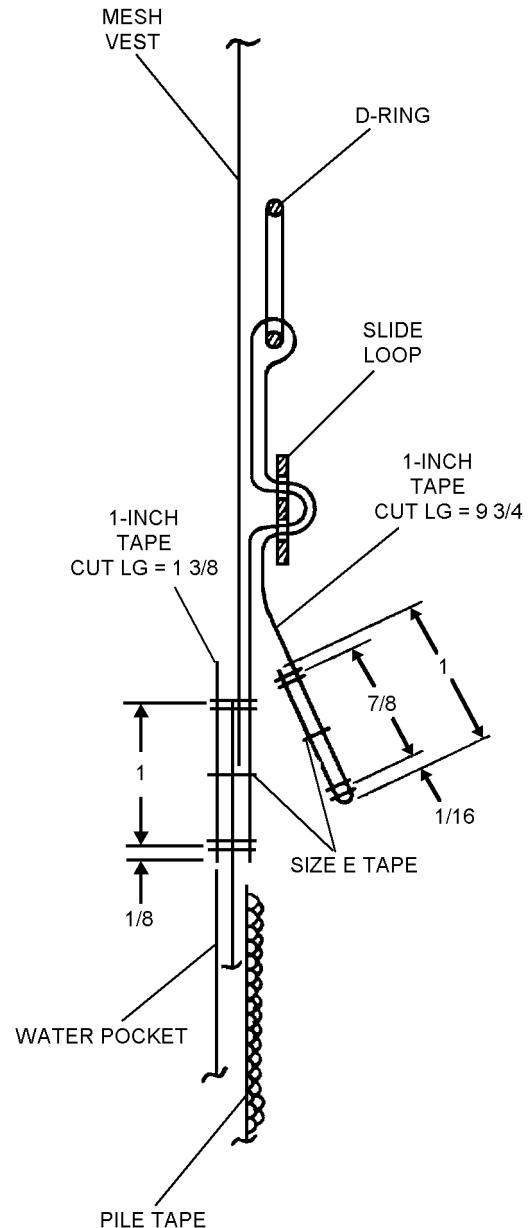

Figure 7-4. Repair/Replacement of Collar Lobe Attachment
1. Sear cut 9 3/4-inch length of MIL-T-5038 one-inch nylon tape. Refer to figure 7-4 and install as follows: